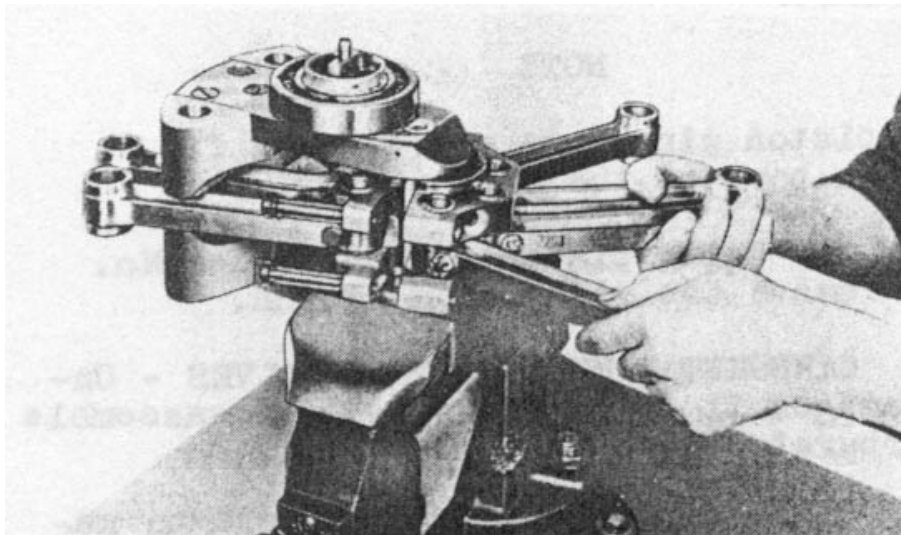

Figure 13 - Method of Clamping Crankshaft Assembly in Bench Vise For Disassembly.
(1) Place the crankshaft in a vise with copper covered jaws, as shown in Figure 13. Clamp vise jaws securely against front crankshaft cheeks.